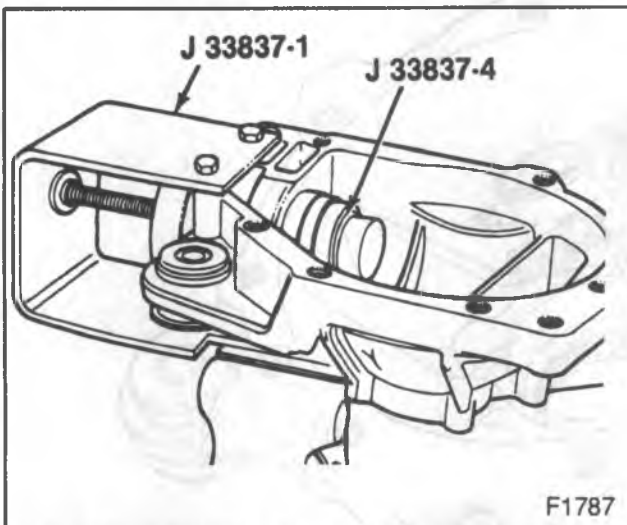

Figure 17—Installing the Inner Pinion Bearing Cup
2. Bearing cup (39) into the case using J 33837-1, J 33837-3, and J 33837-4 (figure 17).